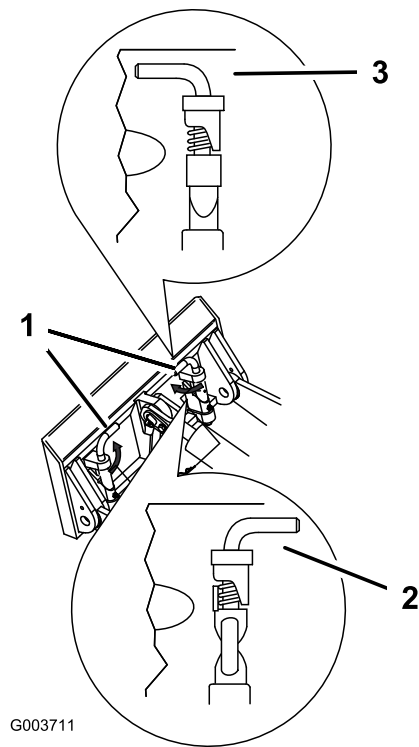

Figure 32
7. Engage the quick attach pins, ensuring that they are fully seated in the mount plate (Figure 32).